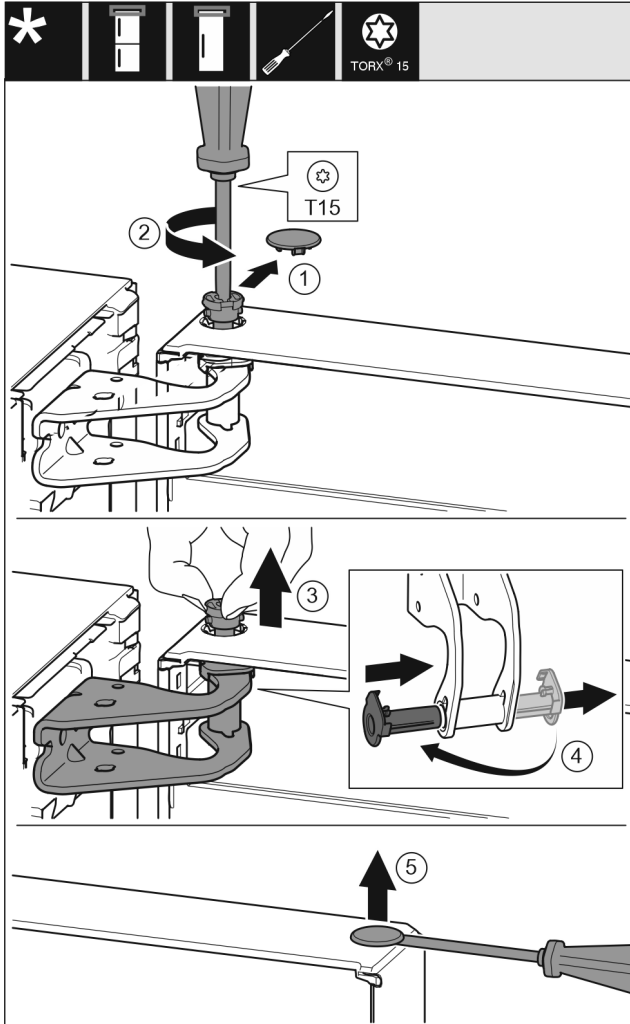

Fig. 12
- Carefully remove the protective cover. *Fig. 12 (1)*
- Loosen the bolts slightly with a T15 screwdriver. *Fig. 12 (2)*
- Hold the door and remove the bolts with your fingers. *Fig. 12 (3)*
- Pull the bearing bush out of the guide. Insert from the other side and latch into place. *Fig. 12 (4)*
- Carefully lift the plugs out of the door bearing bush with a slotted screwdriver and remove them. *Fig. 12 (5)*